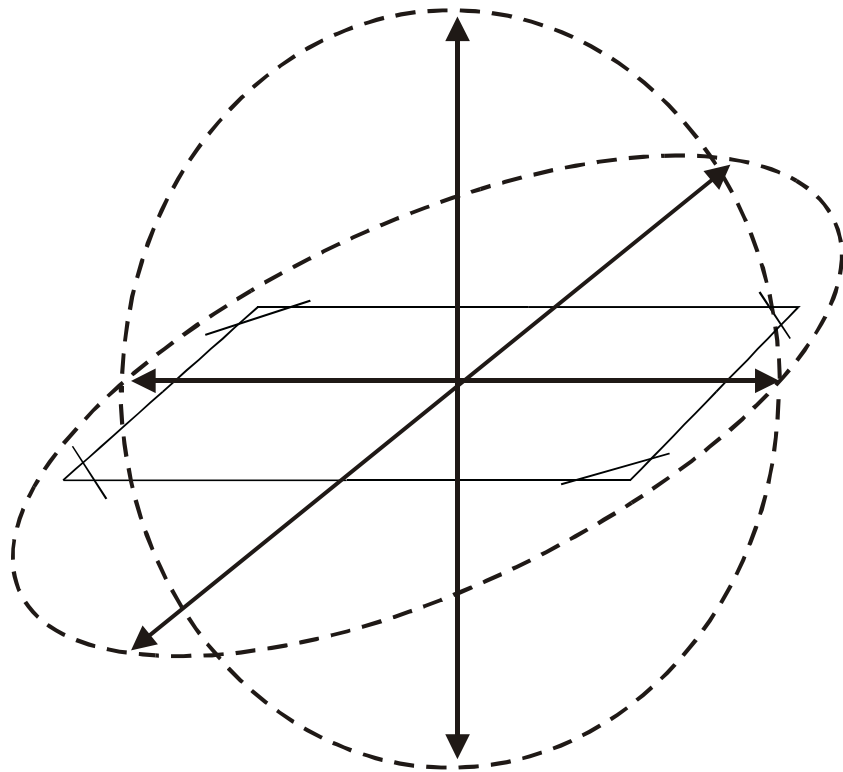

Figure 26 A Road Antenna transmit field.
The Figure 26 shows a simplified diagram representing the field generated by a Road Loop Antenna. In reality, antenna fields are lobed and asymmetrical, but the longest range will still be along the longest sides. If you are installing a Road Loop Antenna in a multi-level parking garage, keep in mind that the field extends up and down from the Road Loop.
- Step 13:** Using an LED Test Tag, ensure that the activation field of the Road Loop extends adequately for desired coverage from the center of the Road Loop (Figure 26). Antennas with greater width (dimension A) have larger fields.